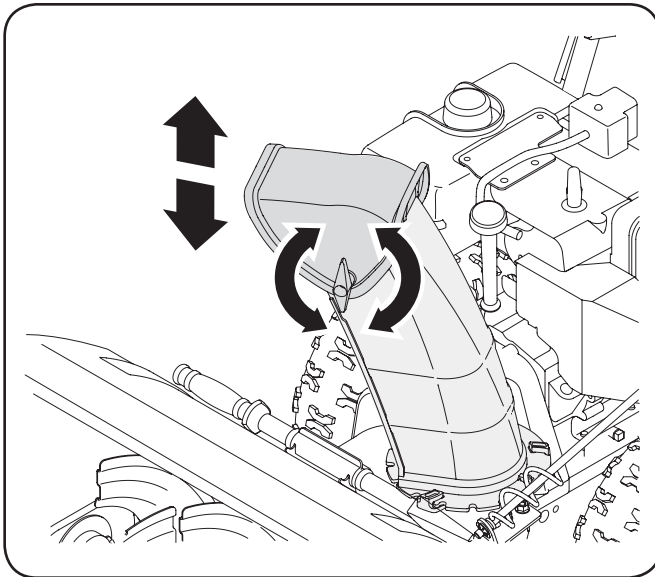

Figure 3-10
2. Pivot the chute upward or downward before retightening the wing knob. See Fig. 3-10.